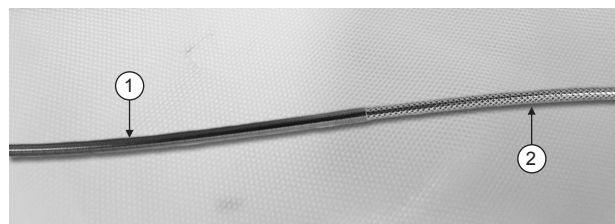

Figure 3. Silver retractable outer sheath and gold isolation sheath
Note: If a second hand is used to hold the delivery system, gently support the delivery system at the gold isolation sheath (1). Do not constrict the silver outer sheath (2) during deployment. See **Figure 3**.